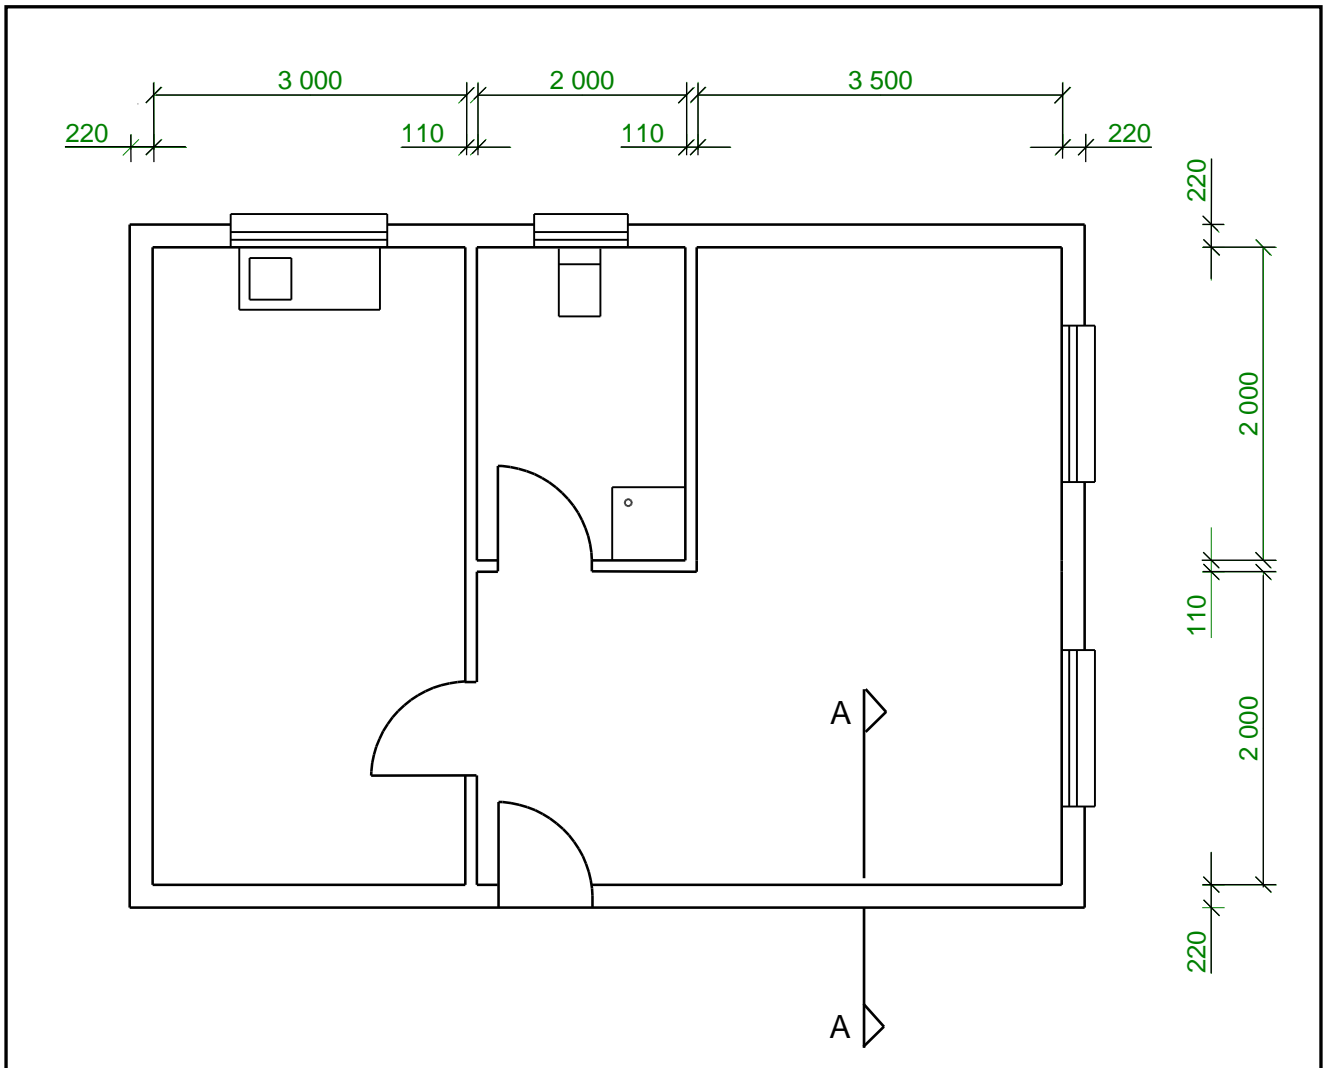

FIGURE 6.2
6.2 FIGURE 6.2 below shows the floor plan of a site office with a gable roof with open eaves.